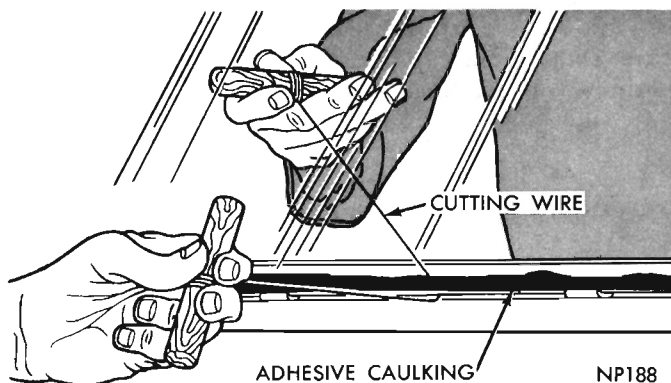

Fig. 1 Cutting Adhesive Caulking
(5) With an assistant, carefully cut through adhesive material by pulling wire, in a sawing motion, up one side, across top, down opposite side and across bottom (Fig. 1).
(6) With an assistant, remove glass from opening and if original glass is to be reinstalled, place on a protected surface.
(7) All old adhesive should be removed from glass and opening reveal using a putty knife or razor blade. **DO NOT use an oil base solvent to remove adhesive.**
(8) Using steel wool, remove loose flakes of adhesive and old primer from reveal. Use light air pressure to clean reveal and surrounding areas.